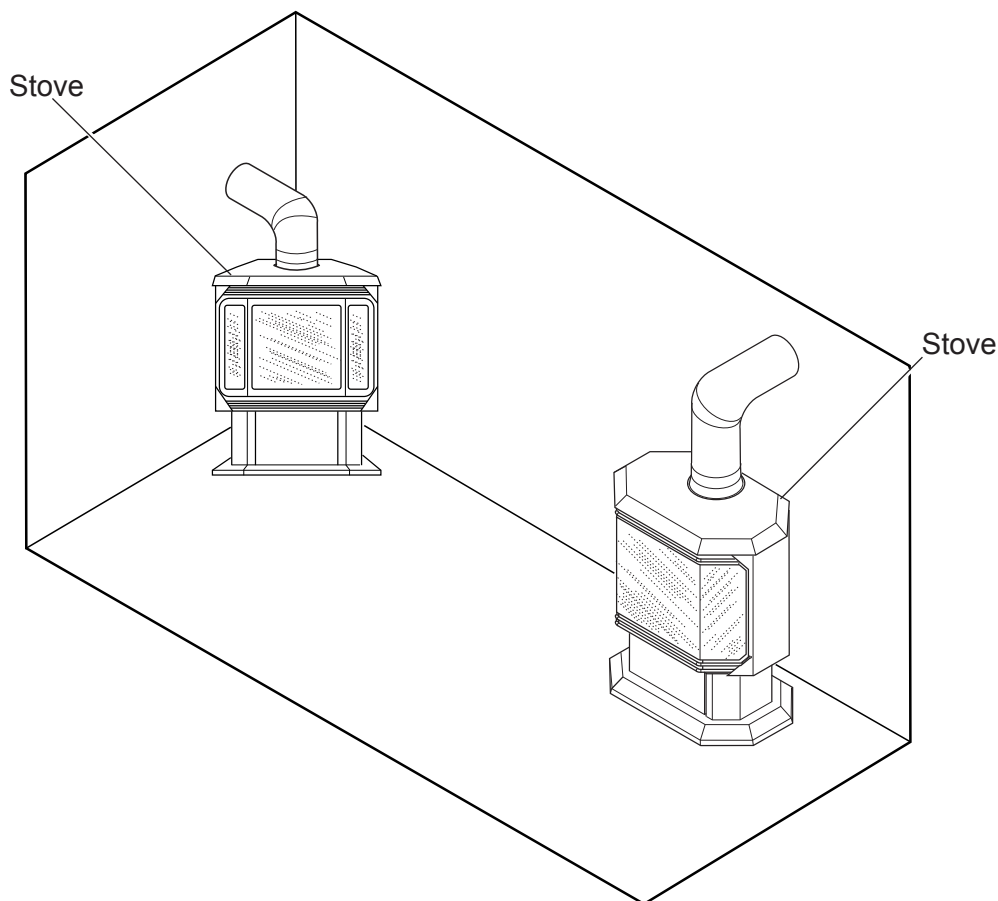

Figure 3 - Example of Typical Installations (see “Clearances,” page 8)
- This stove may be installed along a wall, across a corner, or use an exterior chase. See *Figure 3* for suggested locations.